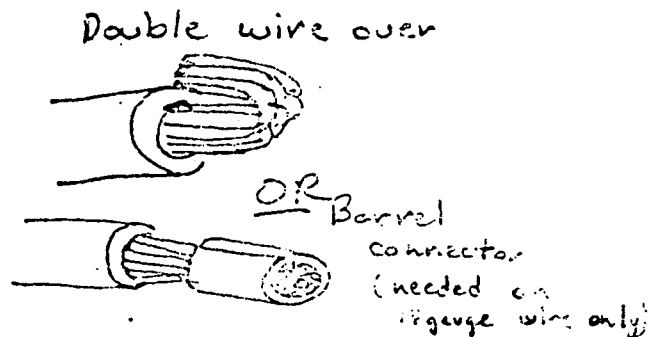

FIGURE 22. Barrel Connector Installation
3. Connect the black AC Hot conductor to the terminal of either of the two 15 amp circuit breakers provided as shown in Figures 19 and 21. A barrel connector must be crimped on the conductor prior to connection in order to fill the large "set screw" type terminal of the circuit breaker properly as shown in Figure 22.